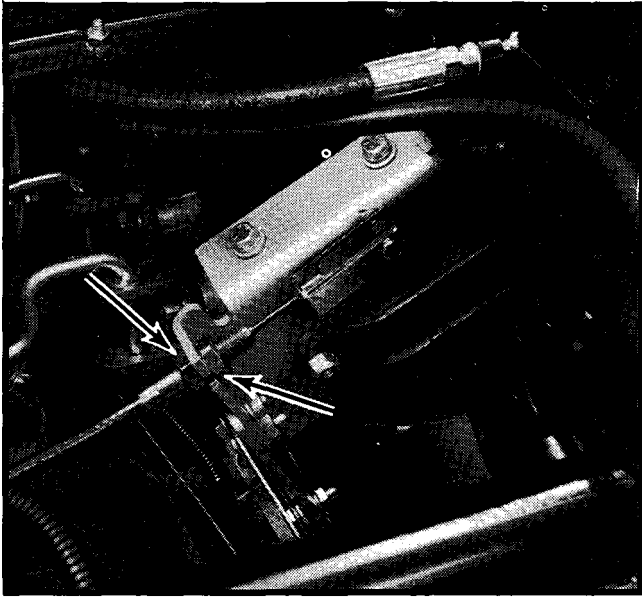

Figure 15.
2. Adjustment is made by turning nut on conduit. See Figure 15.